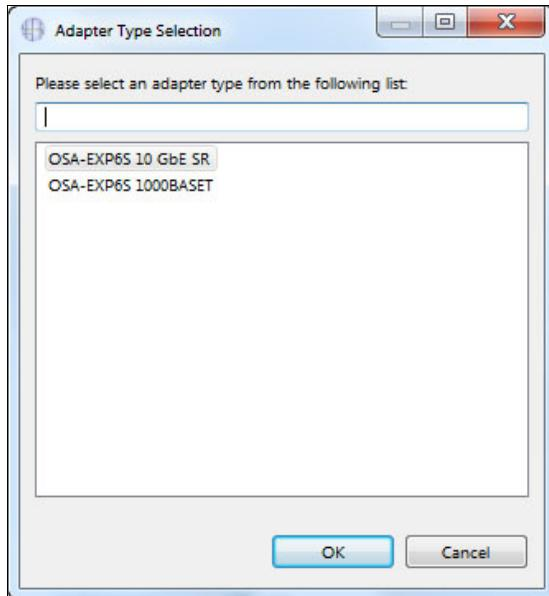

Figure 4-28 Adapter Type Selection
3. The tool displays a list of available and compatible card types for the CHPID as shown in Figure 4-28. Select an adapter type and click **OK**.